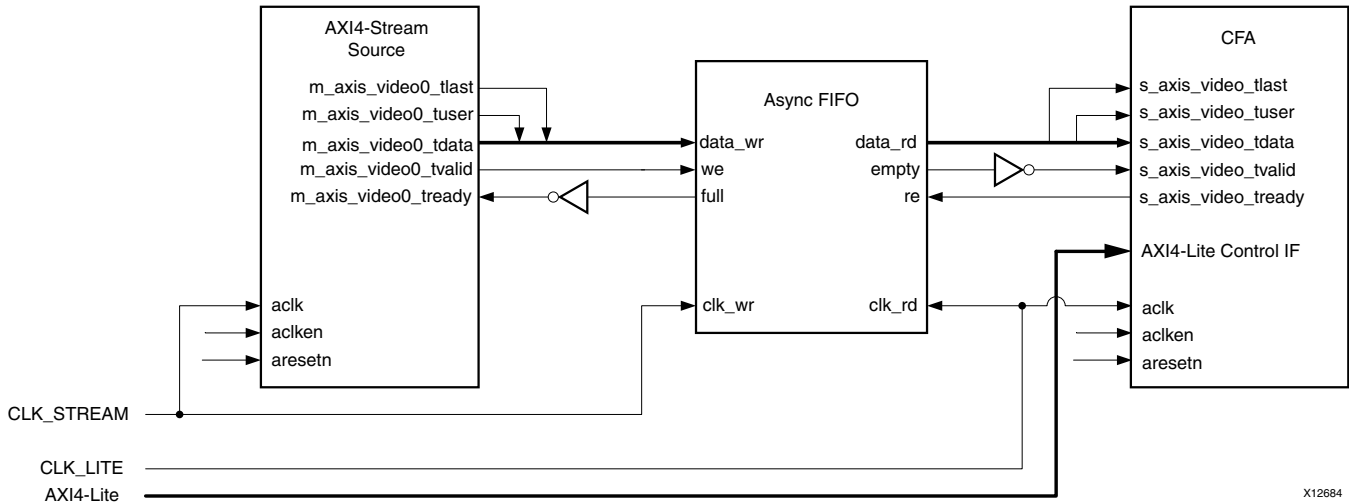

Figure 4-4: CFA CORE Top-Level Signaling Interface
- ($F_{CLK_STREAM} < F_{CLK_LITE}$) then clock-domain crossing logic needs to be inserted before the AXI4-Stream interface, and the CFA core needs to be clocked at the AXI4-Lite clock via the `ACLK` pin, as shown in Figure 4-4. Alternatively, if F_{CLK_LITE} greater than of the F_{MAX} of the CFA core, clock domain crossing logic can be inserted in front of the AXI4-Lite Control interface.
In either case, Xilinx System Integrator tools, such as EDK, can automatically infer clock-domain crossing logic using the AXI interconnect core, when the tool detects that the master / slave side of AXI4 interfaces operate on different CLK rates. For manual instantiation of clock-domain crossing logic, HDL users can take advantage of the FIFO Generator IP core, as shown in Figure 4-4.